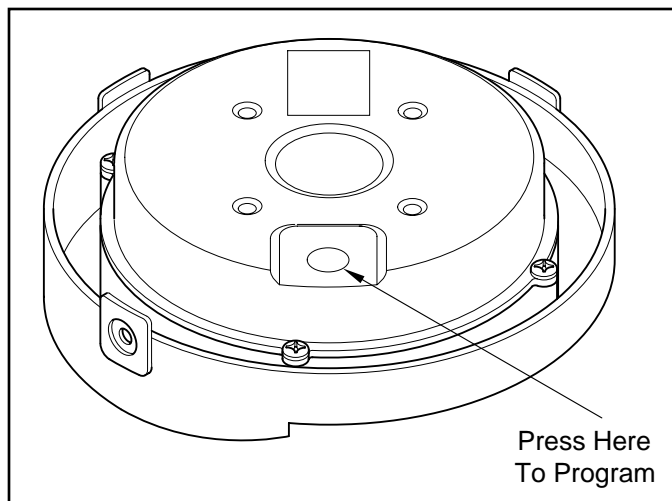

Figure 3 Program Area on Register Module - Bottom View
1. Remove Screws (2) that secure Register Module (1) to Housing (4).
2. Press and hold the area on the back of the Register Module marked **Press Here to Program** for 5 seconds. See **Figure 3**.
2. Position the Register Module face downward. See **Figure 3**.
- Remove Battery (3) from the circuit board.